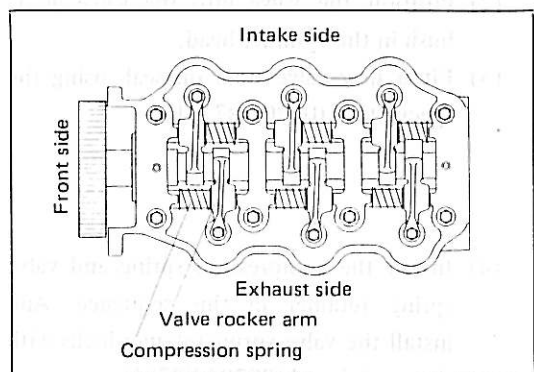

Fig. 3-84 Installing Valve Rocker Shaft
3. Install the valve rocker shaft related parts as follows. Insert the valve rocker shaft into position, while setting the valve rocker arms and compression springs as shown in Fig. 3-84.